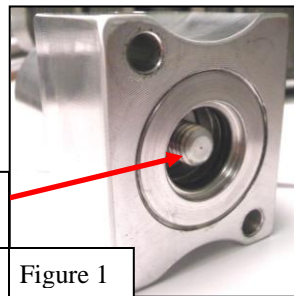

Figure 1
1. Apply Loctite to threaded portion of Shoulder Bolt as shown in Figure 1.